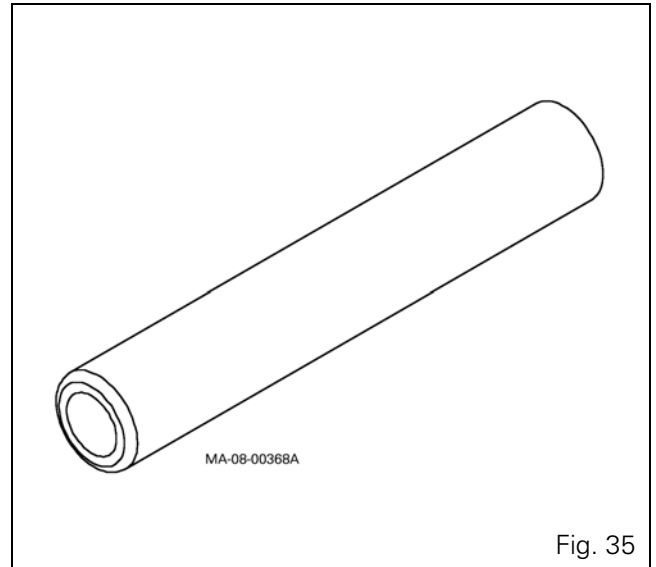

Fig. 35
- CA 715343, CA 715382 - Selector rail (Fig. 35)